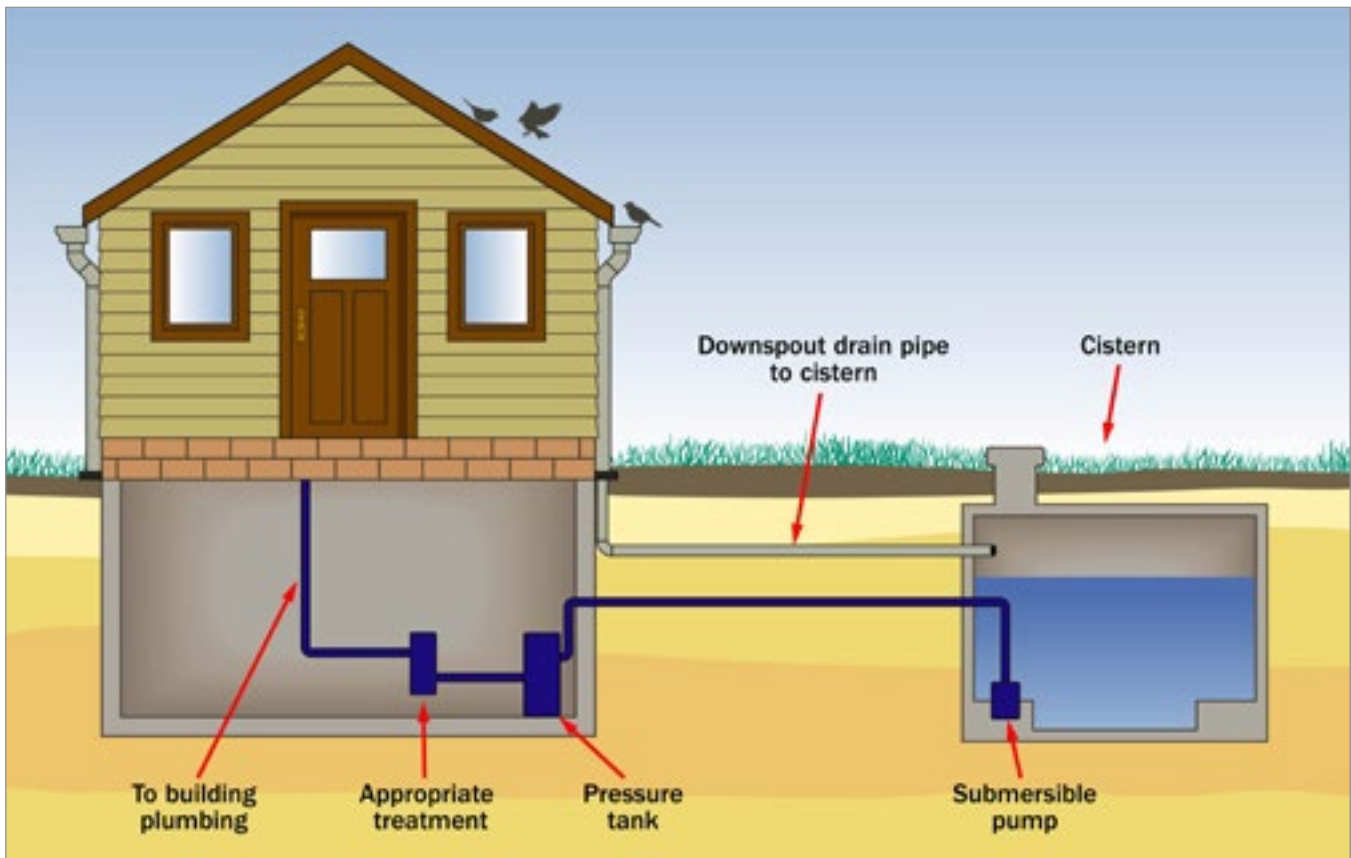

Figure 2. A cross-section of a cistern recharged by rooftop runoff with water treatment.
- **Cisterns** (reservoirs used to collect and store water) are often used in areas where wells have difficulty providing an adequate quality or quantity of water. Cisterns can be contaminated with collected rainwater, by surface water seeping through cracks or when flooded (Figure 2).